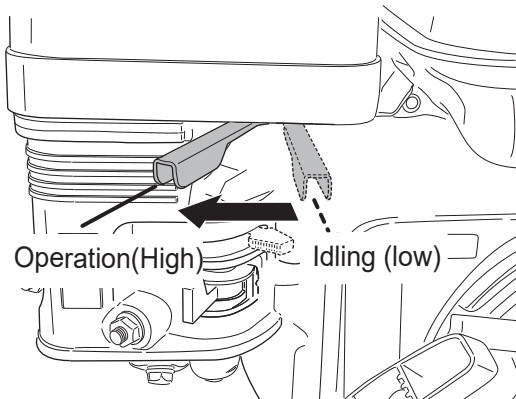

Fig.23
2. Move the throttle lever slowly to the normal operation and set the engine speed at high speed.(Fig. 23)